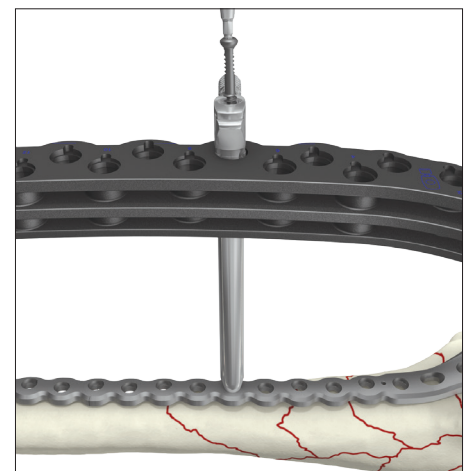

Fig. 27
The appropriate size of the cortical screw is inserted using the T20 screwdriver (ref 703539) or the screwdriver bit (ref 703540) for power insertion (fig. 27). In hard cortical bone, it is advised to use the cortical tap Ø4.5mm (ref 703551) before screw insertion. Repeat the same procedure for other chosen non-locked shaft holes.